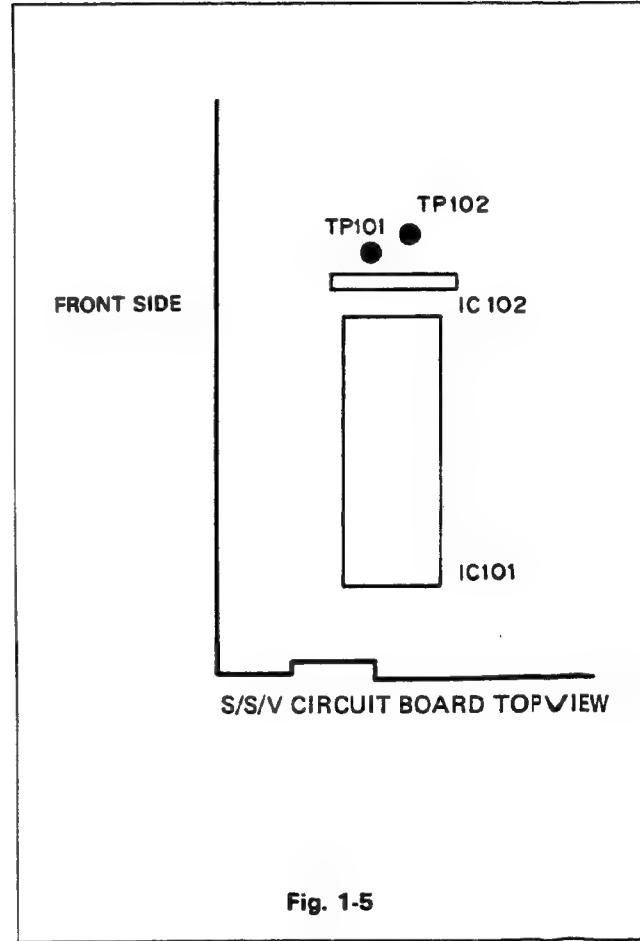

Fig. 1-5
1-5. SERVICING PRECAUTIONS (Figure 1-5)
- (3) When operating without using a cassette, short TP101 and TP102 on the S/S/V circuit board shown in Fig. 1-5 with a clip.